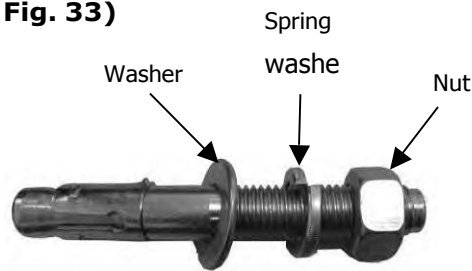

Fig.35
1.2 Adjust the column with the leveling bar and leveling pad , drill the anchor hole and install the anchor bolts. Tap the anchor bolts into the anchor hole with a hammer and tighten the bolts.(See Fig.35)